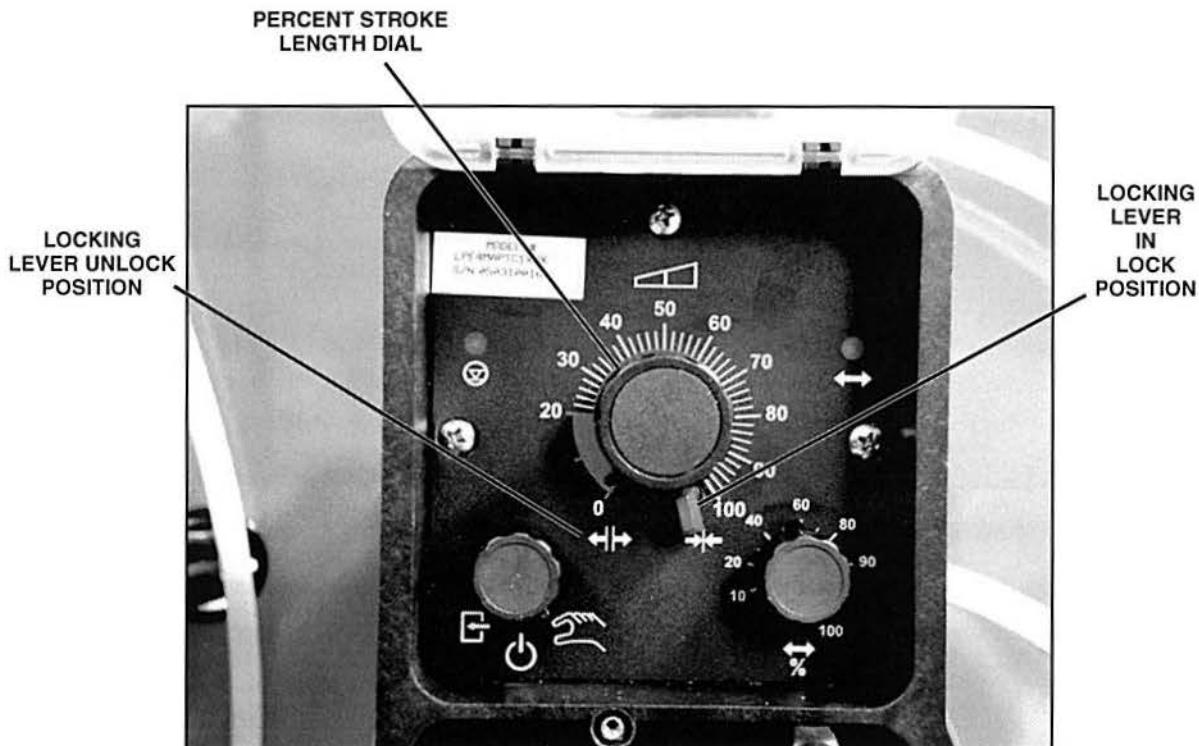

Figure 54. Percent Stroke Length Dial and Locking Lever
- E. Unlock the locking lever for the percent stroke length dial, shown in figure 54, by moving the lever to the unlock position (left most position).